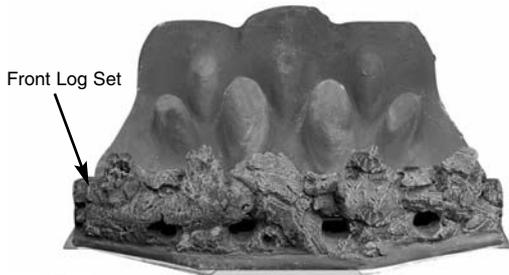

Fig. 37
2. Position the front log set on the front log retainer, making sure that the back edge is pushed up against the front of the burner strip (Fig. 37).